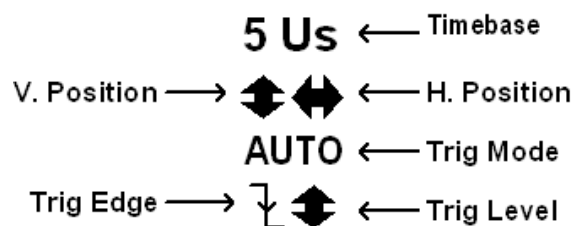

Fig. 2
- 5) Scope setting indicators – their meaning as shown in Fig. 2.